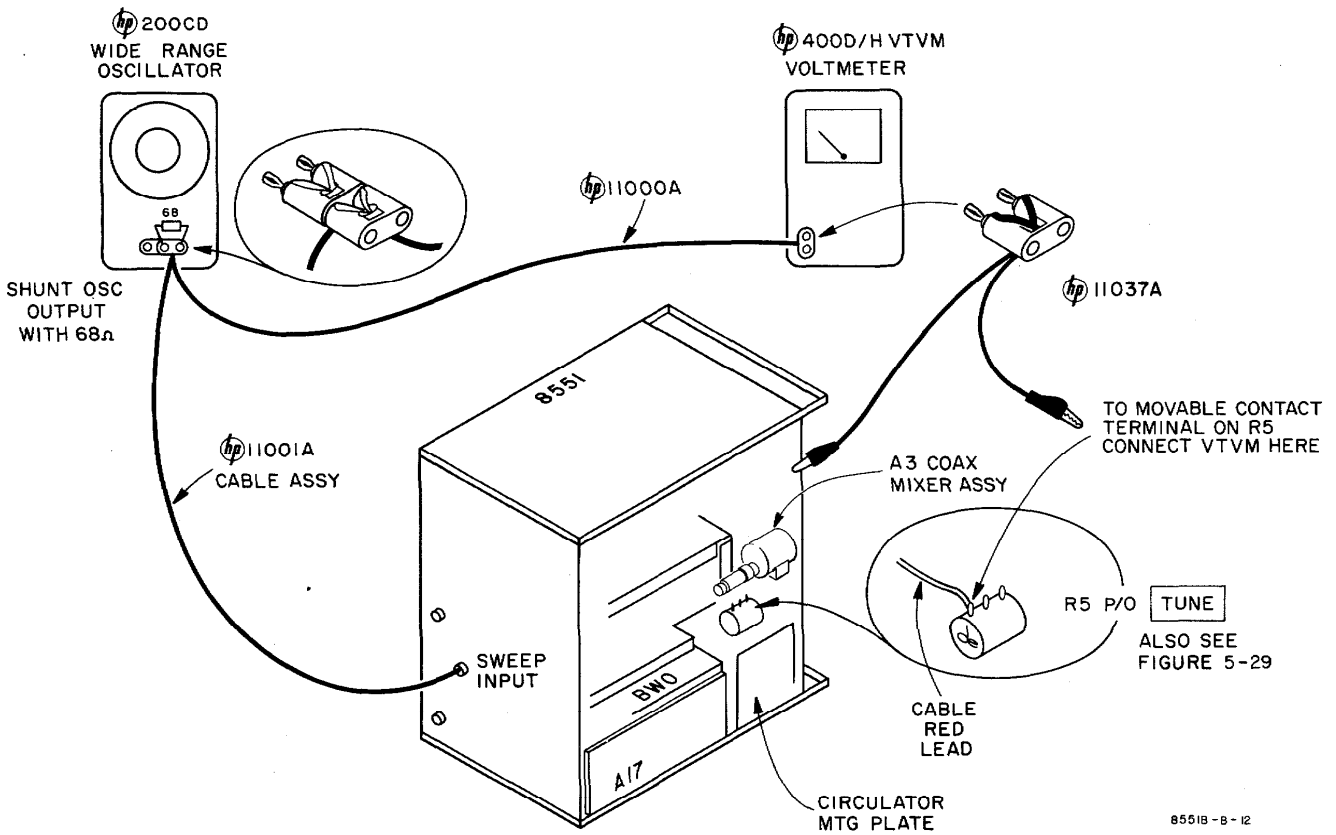

Figure 5-21. Setup, SPECTRUM WIDTH and A13Q15/Q16 Reference Differential Amplifier Check
5-139. The switching logic and helix control input circuit can be checked as indicated in Figure 5-21. Proceed as follows:
- d. Measure the voltage on the rear terminal of TUNE potentiometer R5 (see Figure 5-21). At each setting of the SPECTRUM WIDTH switch, compare the voltage measured with the voltages given in Table 5-28.
- e. Return SPECTRUM WIDTH to 200 MC/CM, and check voltmeter readings against FREQUENCY(GC) settings as indicated in Table 5-29.